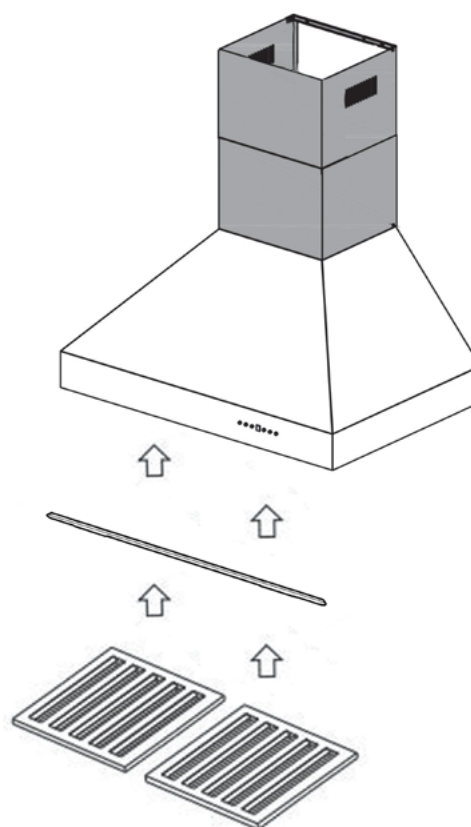

Figure 8
10. Install the baffle channel (if applicable) and baffle filters. Depending on the model, not all range hoods include a baffle channel or tunnel. *Figure 8*